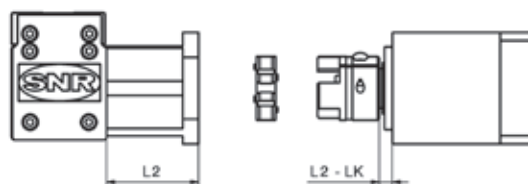

Figure 3.11 __ Mounting dimension
2. Insert the coupling hub **3** on the drive or gearbox shaft **5**. The mounting dimension LK (Figure 3.11) from Table 6.23 in Chapter 6.2.4.1 must be taken into account.